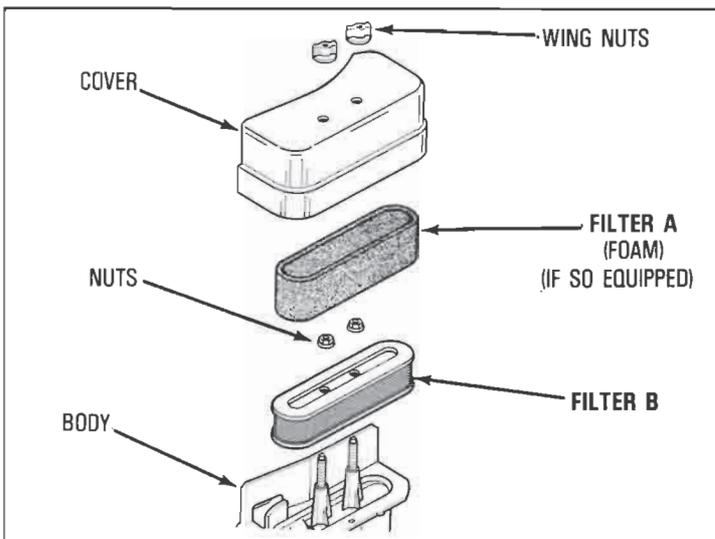

Figure 4
- A. **TO SERVICE FILTER(S)** (see Figure 4):